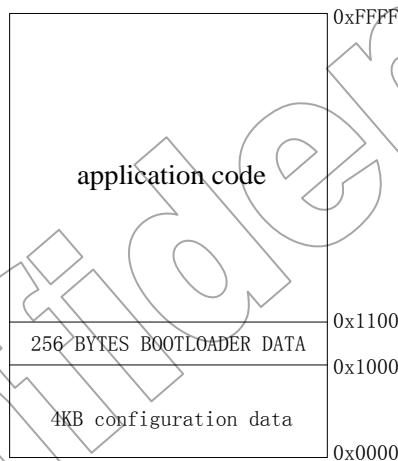

Figure 2 Flash Address Assignment
6. **App Location:** Download the application code to flash or RAM. If selected “Flash”, the “Flash Clk” parameter is valid. And the code will be burn into 0x00001100 address of flash. The flash address assignment is shown in Figure 2. QN9020 has a 64KB flash which is assigned as three areas: configuration data area, boot loader data area, and application code area. Any area can be protected except configuration area. If selected “RAM”, the code will be burn to the address of 0x10000000.